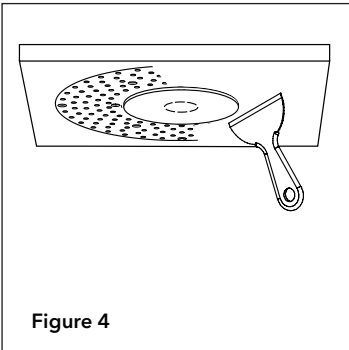

Figure 4
4. Attach safety cable on mounting ring to safety cable on luminaire, using carabiner clip (Fig. 4).
4. Finish ceiling by plastering over mud ring (Fig. 4).